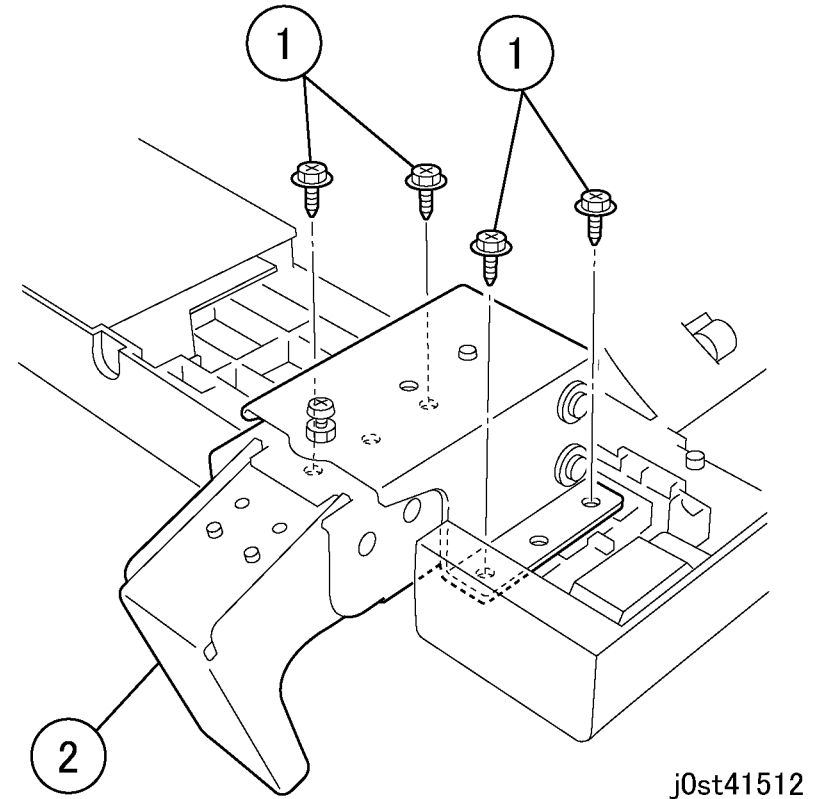

Figure 1 Removing the Left Counter Balance
6. Remove the Left Counter Balance. (Figure 1)